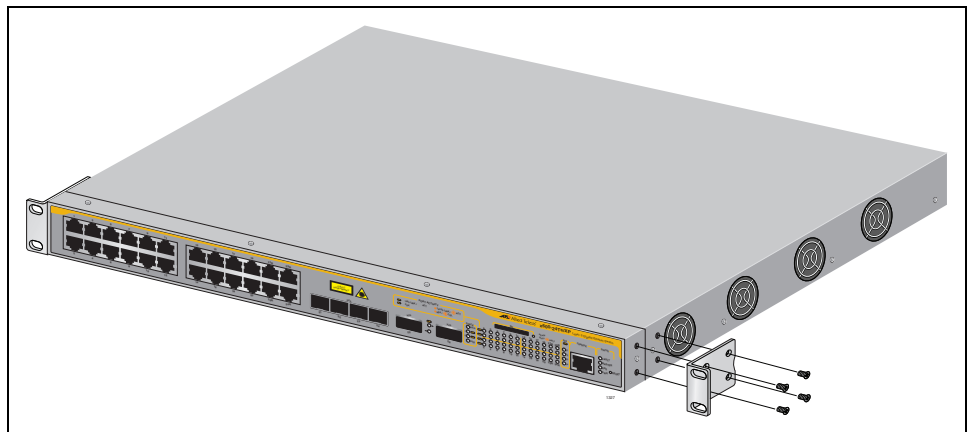

Figure 31. Attaching Rack-Mount Brackets
4. Attach a rack-mount bracket to one side of the switch using four of the screws that come with the switch, as shown in Figure 31.